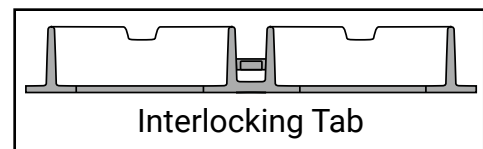

FIGURE 2
- Slide the units together so that the interlocking tab joint is engaged, as illustrated in Figure 2. The top of the panels should be slightly below (1/4-inch) any adjacent hard surfaces or the surrounding finished grade.